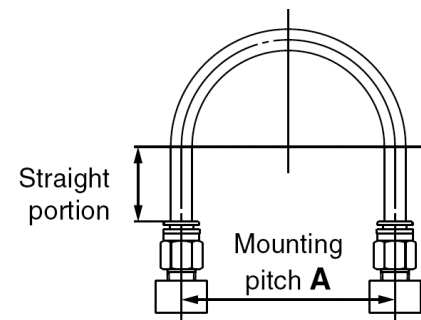

Figure 6
- When connecting tubes using one-touch fittings, provide some spare tube length as shown in Figure 6.